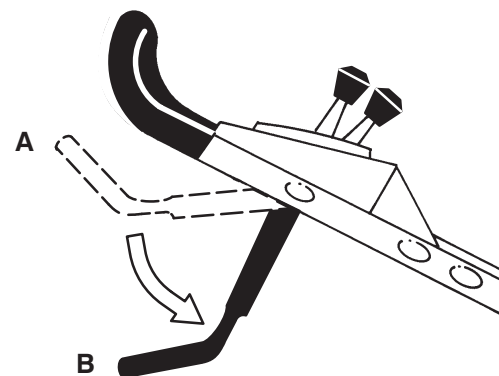

Figure 13
10. Release the control bar (Refer to position *B* in Fig. 13). You should hear a “bang”. The blade should stop in three seconds.
2. Push the control bar down to its lowest position (Refer to position *B* in Fig. 13).